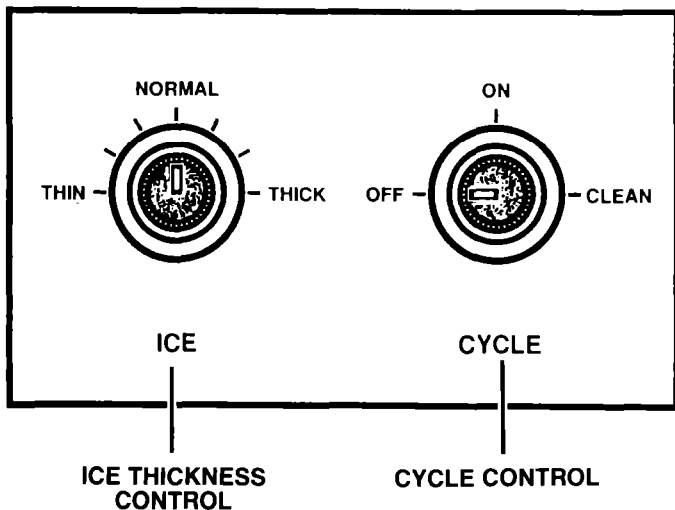

FIGURE 1 – CONTROL SWITCHES
Your ice maker has been pre-set to produce ice approximately 13 mm ($\frac{1}{2}$ ") thick. The thickness can be increased or decreased by resetting the thickness control, Figure 1, however best performance will be obtained at the 13 mm ($\frac{1}{2}$ ") thickness.
1. Place cycle control, Figure 1, in "OFF" position.